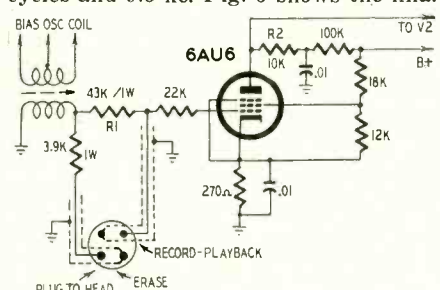

Fig. 4—Schematic of the first stage of the modified Pentron playback circuit. response curve of the modified Pentron PMD-1. The equalization changes were:
3. In the playback circuit, R2 was changed from 33,000 to 10,000 ohms, as shown in Fig. 4, to maintain response down to 40 cycles or better. The original playback circuit provides a maximum boost of about 11 db at 70 cycles, with no further boost thereafter, whereas the modified circuit reaches a maximum boost of about 18 db at 30 cycles.